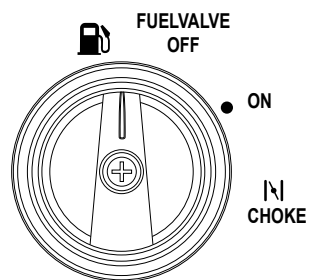

Figure 17. Fuel Cock (ON/CHOKE)
1. On the control panel, in warm weather, turn the fuel cock to the ON position (Figure 17).